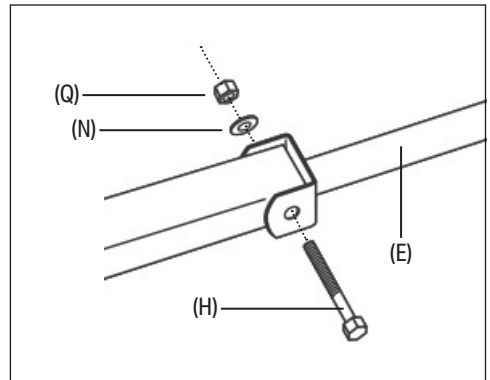

Fig. 6
6. Attach the handle shaft - Fig. 6:
- (A) Place the square bracket of the handle assembly (E) around the forward arm of the front axle assembly.
- (B) Pass the M8 x 62mm partial-thread hex bolt (H) through the handle shaft and axle assembly and secure it in place with an M8 washer (N) and an M8 nylon-insert lock nut (Q).